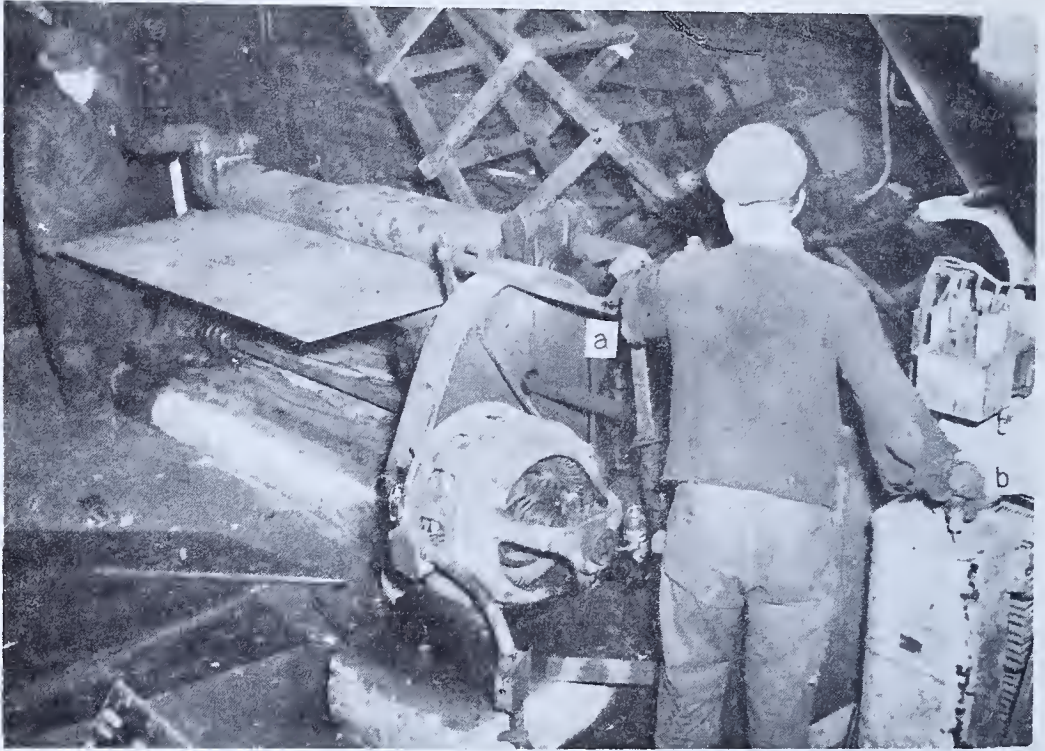
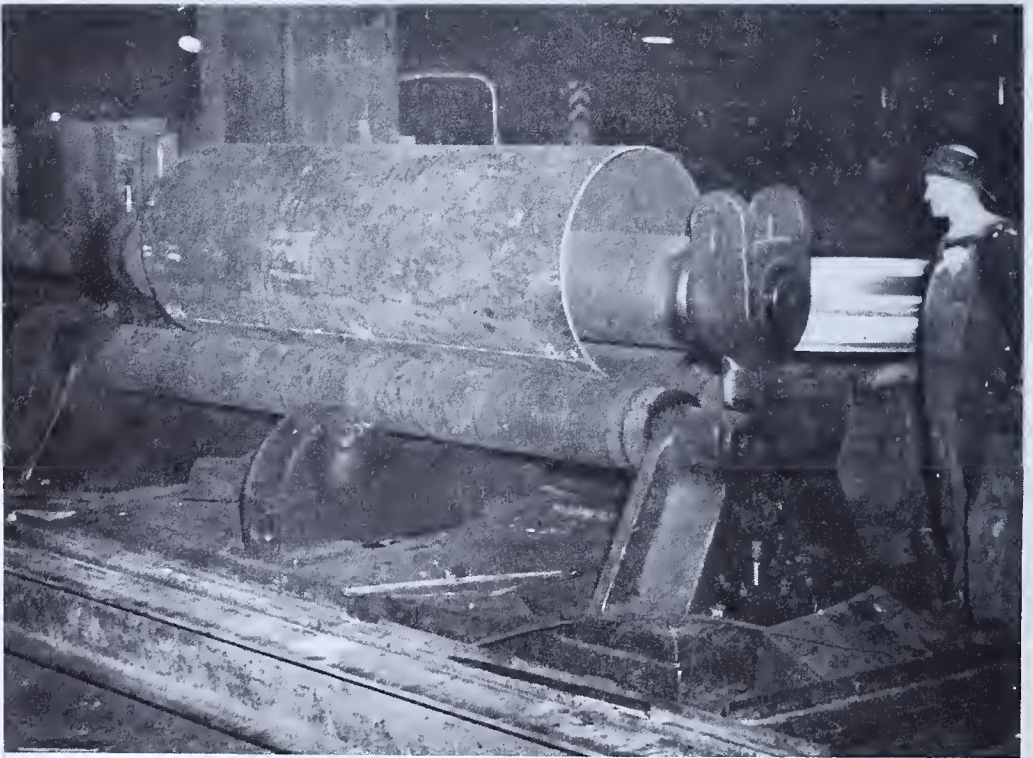

FIG. 139 — *Horizontal Bending Roll — Capacity, 6' Long*
FIG. 140 — *Horizontal Bending Roll — Capacity, 12' Long*
Bending rolls of 6' capacity are shown in Fig. 139. A bending roll of 12' capacity is shown in Fig. 140. These bending rolls are operated through a reduction gear by powerful electric motors. The motion of the rolls is controlled by means of a clutch lever shown at *a* in Fig. 139. The electric power is controlled by means of a rheostat shown at *b* in Fig. 139. All bending rolls are controlled in substantially the same manner, although the controlling mechanism may vary in some respects.
5. Bring the top roll down on the plate until the pressure is sufficient to put a slight bend in the plate. Pressure is applied through a power-operated clutch (Fig. 139) and a geared mechanism.
10. Raise the top roll to the limit, which will allow the "straps" to "break". See Fig. 140.